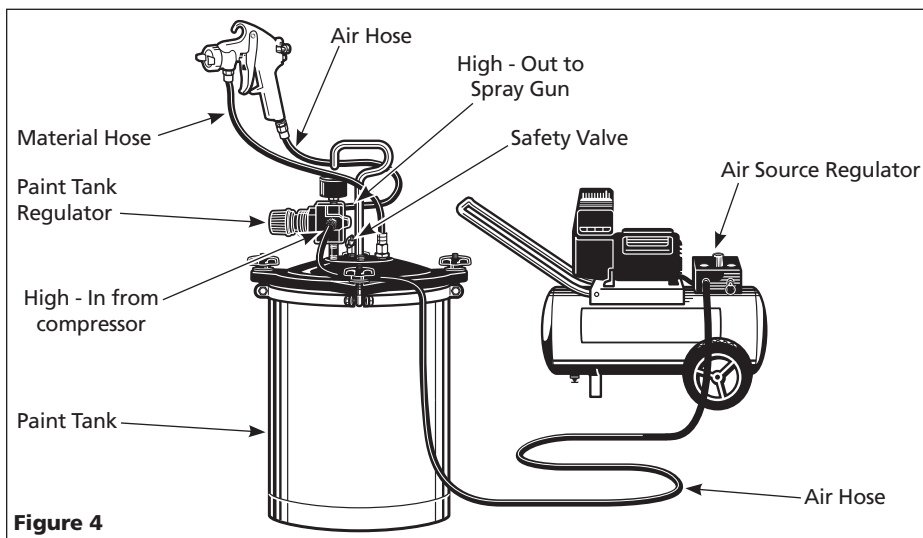

Figure 4
The proper connections to make when using a pressurized paint tank are as illustrated in Figure 4. Refer to the instructions supplied with the paint tank for connections and usage. **DO NOT USE A PAINT TANK WITHOUT READING THOSE INSTRUCTIONS.**
6. Pressure/siphon valve knob must be tightened clockwise (S direction) when using a pressurized paint tank connected as shown in Figure 4. This will prevent pressurized air from escaping out of the canister pressure valve port when the canister is not used.